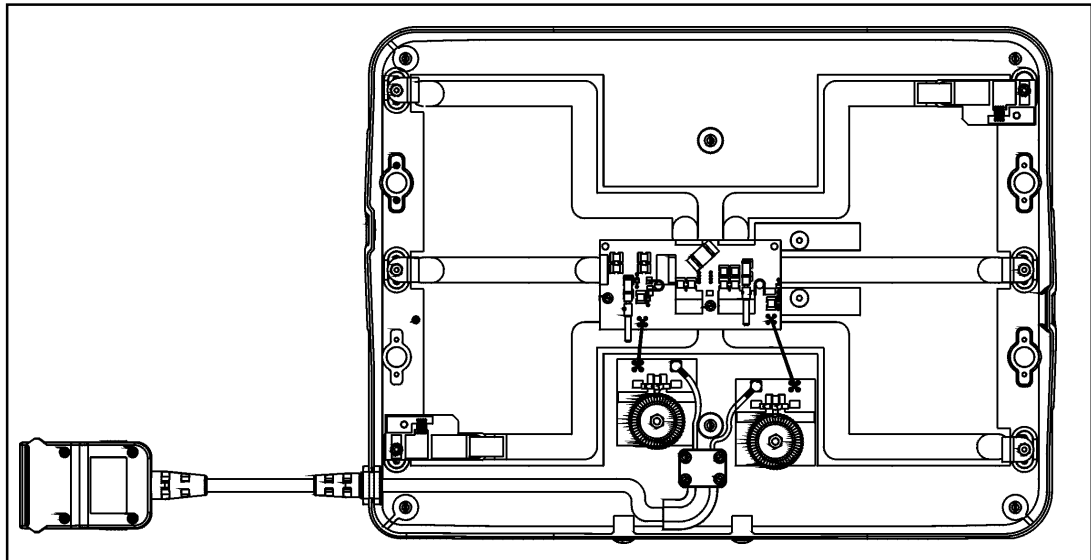

Figure 1: Block diagram of the coil.
- This receive-only coil is designed to give optimum signal to noise and uniform coverage of the torso anatomy, including the chest, abdomen and hip regions. The block diagram of the coil is shown in *Figure 1*. The coil consists of two elements: (1) a loop coil and (2) a saddle coil. The open design allows access to the region of interest for any clinical interaction.